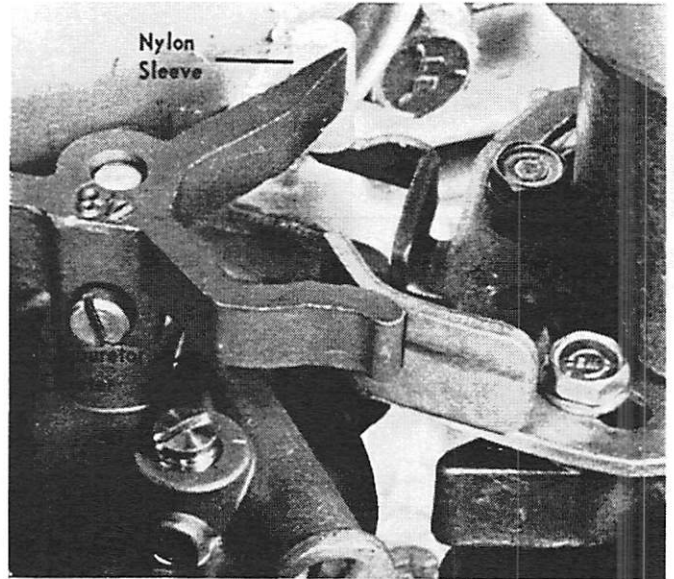

Figure 4. Second Throttle Pickup Pin Adjustment
15. Bend second throttle pickup pin (with nylon sleeve) against carburetor cluster (.000" to .015" gap). (Figure 4)